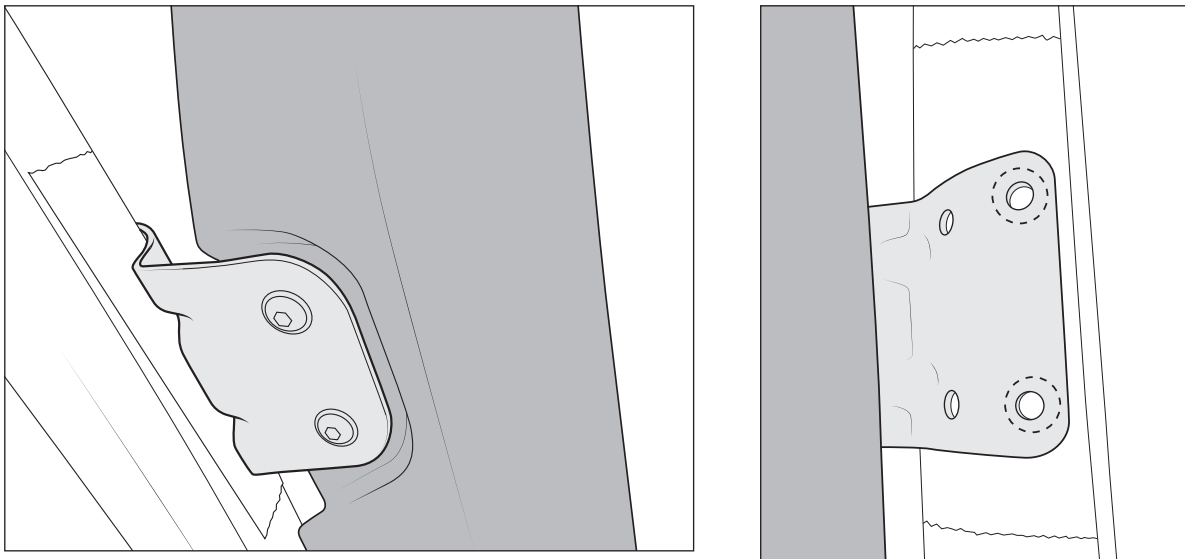

Figure 12
1. Place masking tape on the windshield frame in the area next to the indent on the upper portion of the snorkel. Install stamped mounting bracket to snorkel body as shown (fig. 12) and use provided M6 bolts and washers to loosely retain it. Adjust bracket so that it sits fully against windshield frame contour, hold it in place, mark the two accessible hole locations on the tape, then remove the bracket.